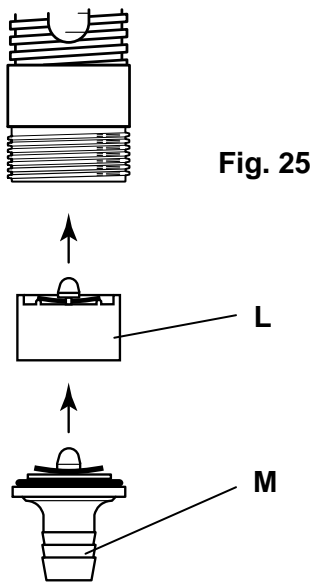

Fig. 25
- Insert the short valve **L** into the injector body (**Fig.25**), followed by the long valve **M**.